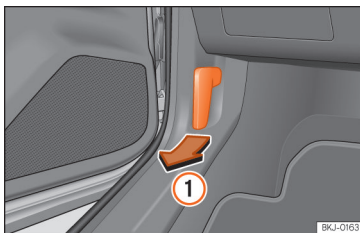

Fig. 178 Release lever in the driver's footwell area.
- Open the door and pull the lever that is underneath the instrument panel >>> **Fig. 178 ①**.